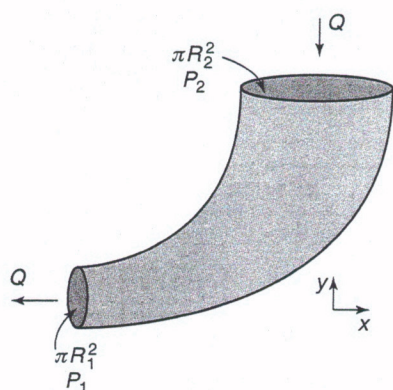

Figure 9.49
21. What is the direction and magnitude of the force needed to support the 90-degree contracting pipe bend shown in Figure 9.49? The water flow is steady and turbulent, the cross section of the outlet of the pipe bend is πR_1^2 , and the